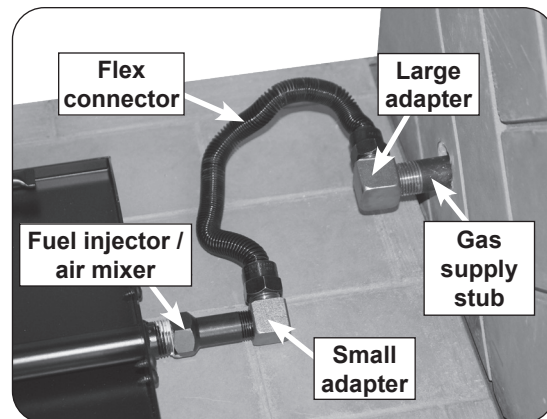

Fig. 10-1 Connect gas supply
2. Locate the gas-supply stub inside the fireplace and remove the cap, if attached (reference Fig. 10-1).
3. Remove the small adapter connected to the flex connector (included). Attach the adapter to the fuel injector / air mixer found on the side of the burner pan using a pipe compound resistant to all gasses. Tighten securely. Then attach the flex connector to the adapter. Tighten securely (See Fig. 10-1).
5. **Be sure gas to the fireplace is off.** Remove the large adapter connected to the other end of the flex connector. Attach the adapter to the gas-supply stub using a pipe compound resistant to all gasses. Tighten securely. Then attach the flex connector to the adapter. Tighten securely. See Fig. 10-1. Ensure the pan rests level on the fireplace floor after connection. Adjust the pan if necessary.